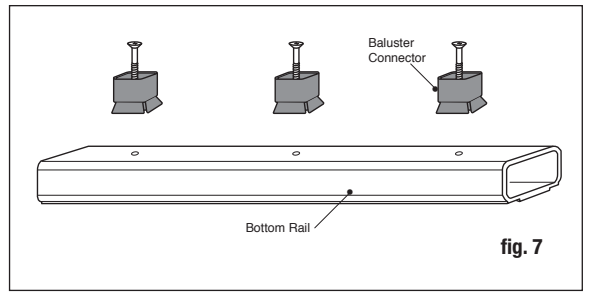

fig. 7
Step 7: Note: This step is for installing the Deckorators square composite balusters. To install alternative Deckorators styles, please refer to the installation instructions provided with the balusters. Place baluster connectors (sold separately) in position on both rails using the pre-drilled holes and attach with the provided screws (fig. 7).